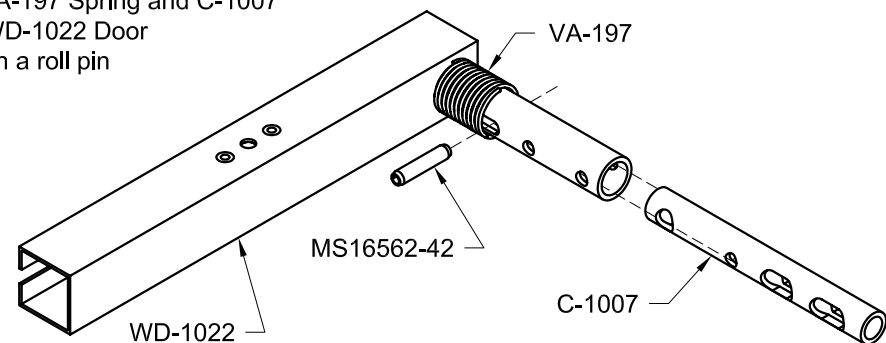

FIGURE 1: BEGIN LATCH MECHANISM ASSEMBLY
Step 1: Secure the VA-197 Spring and C-1007 Handle Slide to the WD-1022 Door Handle Assembly with a roll pin as shown in Figure 1.